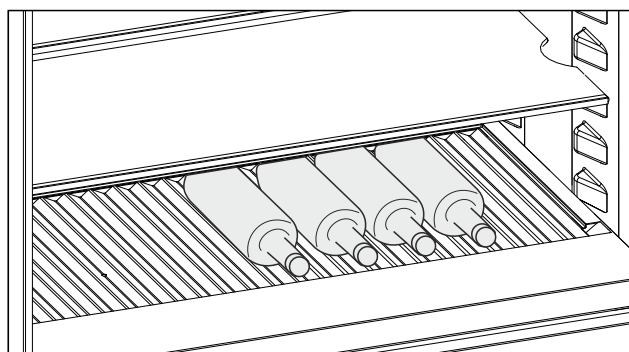

Fig. 207 Example illustration
- Place bottles in the back row with their bases against the back wall. (see Fig. 207)